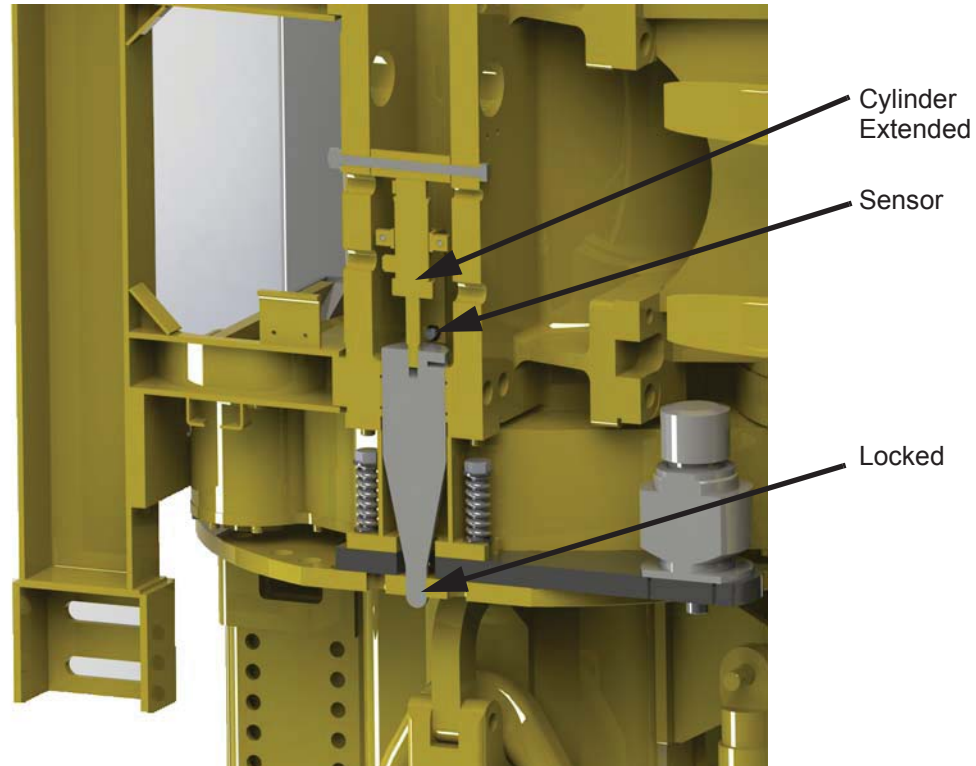

Figure 3: Cylinder extended.
5. Visually inspect the handler lock pin. Ensure the pin is fully locked; the sensor should be visible and cleared of the lock pin, as shown in Figure 3.